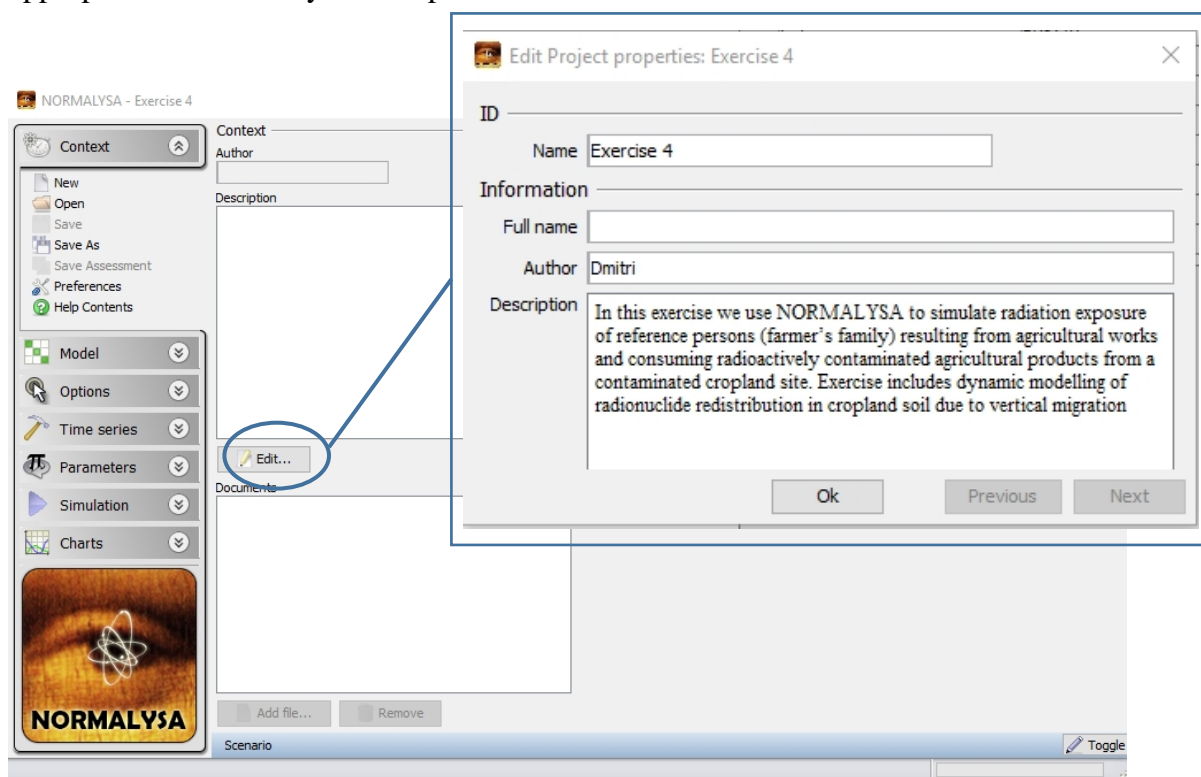

FIG 5. Editing ‘Project properties’ window.
1. Click the ‘New’ button in the context menu to create a new model file. Press the ‘Edit’ button to get access to the model description field (FIG 5).